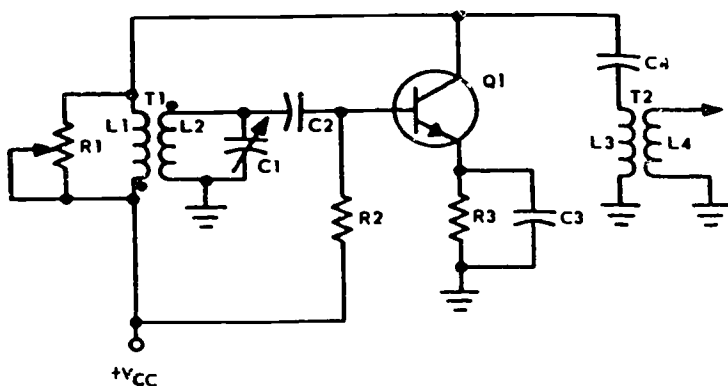

Figure 2-7. Armstrong oscillator.
Figure 2-7 shows the tuned-base RF oscillator as you will probably see it. R3 has been added to improve temperature stability; C3 prevents degeneration, C4 is a coupling capacitor, and T2 provides a method of coupling the output signal. T2 is usually a loose-
6. Refer to figure 2-7. R3 has been added to improve _____.